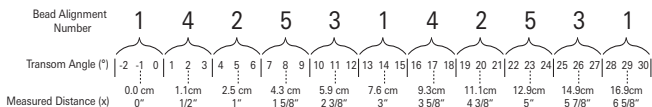
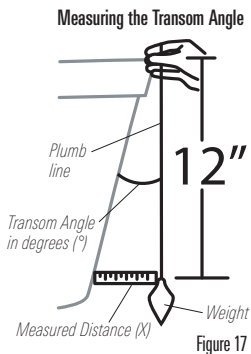

Figure 16
Figure 17
- If you already know your transom angle, refer to the chart below for the initial position to use to set the ratchets (Figure 16). If your transom is angled at 14 degrees (a common transom angle for many boats) use position 1 for the ratchets. In either case, go to step 2.
- If you do not know your transom angle, measure it using a plumb line (weighted nylon string or monofilament line) exactly 12 inches long. Hold the top of the plumb line against the top of the transom with your finger, and wait until the line hangs straight down (Figure 17). Using a ruler, measure the distance from the bottom of the plumb line to the back of the transom, then use the chart (Figure 16).
**NOTE:** It is important to take your measurement in the location shown in Figure 17, from exactly 12 inches down from the top of the transom.